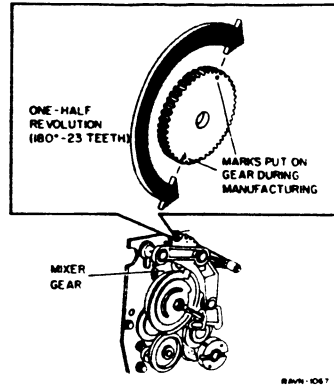

Figure 9. Checking the Mixing Gear
4. WITH THE DRY IMAGER CONTROL KNOB IN NORMAL POSITION, PRESS TEST AND CHECK THE QUANTITY OF PRINTS MADE WHEN MIXER GEAR TURNS 1/2 REVOLUTION (FIGURE 9).